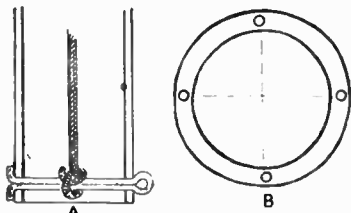
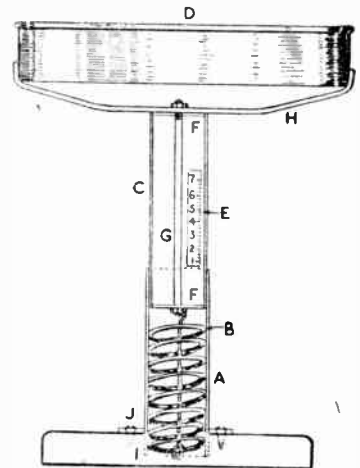

Fig. 2—The securing cord (A) and (B) pattern of collar for base
Fig. 1—Sectional view of parts and construction
**T**HE spring-balance as shown in Fig. 1 is an extremely useful piece of domestic apparatus which can be quite easily constructed at very small cost. The design is novel and pleasing; there is nothing to go out of order, no loose weights to become mislaid and it is always ready for instant use.
A glance at the illustration, Fig. 1, clearly indicates its working principle. The lower tube (A) contains a compression spring (B). The upper tube (C) is an easy sliding fit in the lower tube and compresses the spring in direct relation to the weight placed in the scale-pan (D). A calibrated scale (E) is marked on the upper tube, which indicates the correct weighings.
Assuming that the reader has obtained a spring of the above dimensions, the lower tube which is of either brass or copper, must be 2ins. in internal diameter by 7ins. length. The inside must be nicely polished smooth and a very light smear of oil applied. The upper tube is of similar metal and must be 2ins. external diameter by 8ins. length. Two end-pieces, Fig. 1 (F), are soldered into place and the scale-pan carrier secured into position by a long bolt (G) which passes down the length of the tube and is bolted through and on the end-pieces.
Near the bottom of the larger tube is drilled two small holes and a split-pin passed through and secured by opening and turning the ends over—Fig. 2 (A). A thin cord or small chain is then fastened under the bolt (G), the spring inserted in tube (A) then the smaller tube (C) inserted inside the larger tube and pushed down until the spring is slightly compressed.
The stand should be made from a fairly substantial piece of wood. A hole is drilled nearly through of the same external diameter as that of the lower tube (I). The tube is then pressed in as far as possible and securely located in position by a collar or ring. The collar is made from brass ¼in. thick to the pattern as shown in Fig. 2 (B). This is slipped over and down the tube and is tightly screwed into the baseboard with four screws, Fig. 1 (J). It is then sweated with solder around the tube, thus making a firm and stable assembly.
The T handle, Fig. 1, generally breaks off at the join with the shaft. It can be made as good as new by first cutting off all rotted or broken parts and then cutting down to a shoulder to fit tightly in the top bar and then to drive in a good wedge. It might be that only a nicely fitted wedge was necessary—cut this from hard wood and do not make the taper too sharp. All wedges should be glued before tapping home to prevent any possibility of them working loose.
Sometimes the top bar is just screwed on to the shaft. This is not at all satisfactory and should be altered to fit as in Fig. 1.